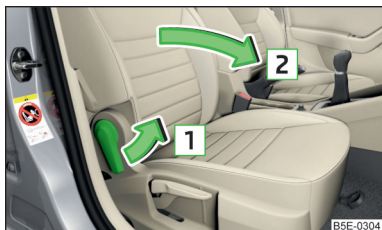

Fig. 84
- To **fold down**, pull the lever in direction of arrow **1**, fold the seat backrest in the direction of arrow **2** » Fig. 84. The locking mechanism must audibly snap into place.